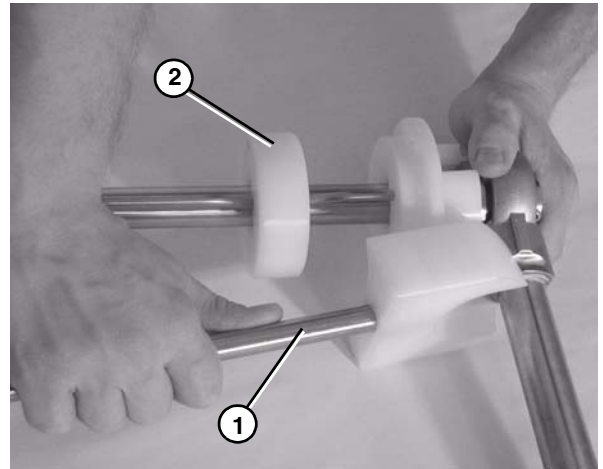

Figure 70
6. Remove the guard bar (**Figure 70, item 1**).
7. Remove the pucks (**Figure 70, item 2**).